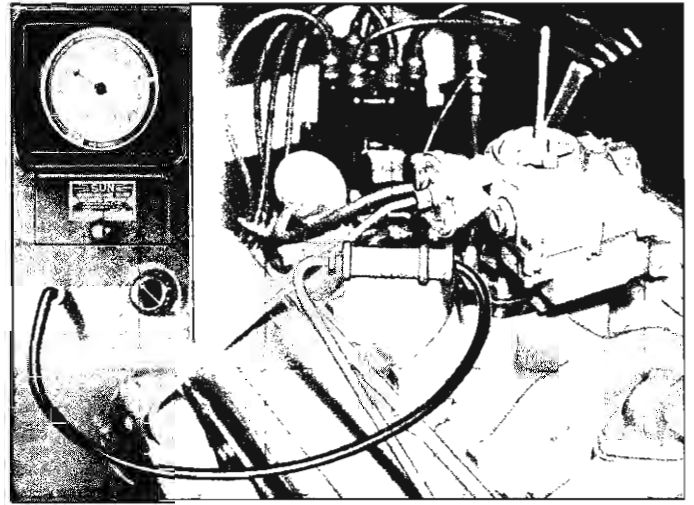

Fig. 43—Fuel Pump Pressure Test
1. Attach vacuum-pressure gauge hose to fuel line (fig. 43).